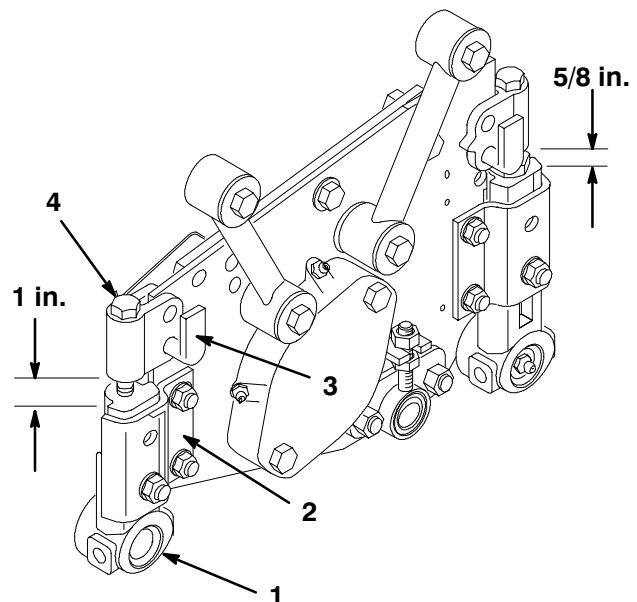

Figure 6
2. Adjust support capscrew to achieve 1 in. \pm 1/16 (25mm \pm 1.5mm) dimension between height-of-cut support and front roller bracket (2 places) (Fig. 6).
3. Adjust support capscrew to achieve 5/8 in. \pm 1/16 (16mm \pm 1.5mm) dimension between height-of-cut support and rear roller bracket (2 places) (Fig. 6).